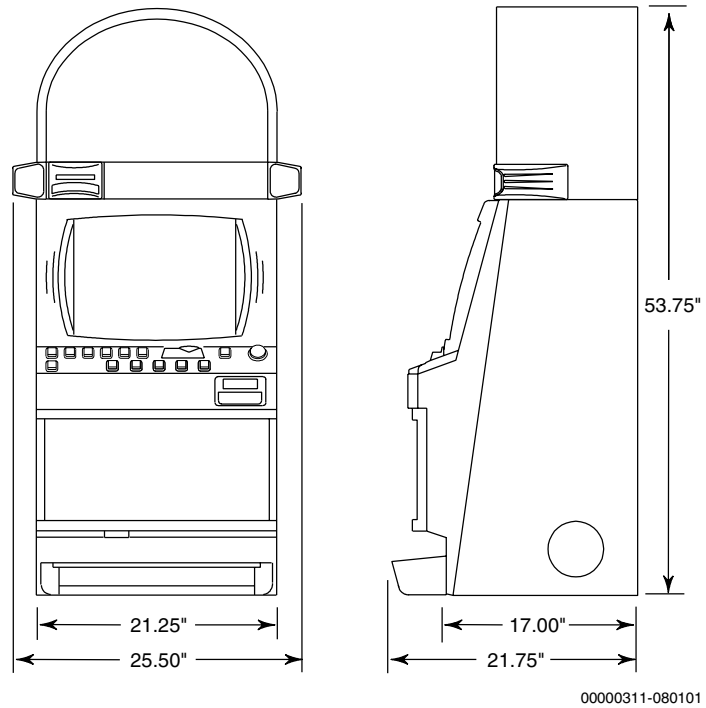

Figure 2-16. Cabinet Dimensions – Game King Plus 19" Upright with Round Top Box
- Cabinet Dimensions – Figures 2-16, 2-17 and 2-18